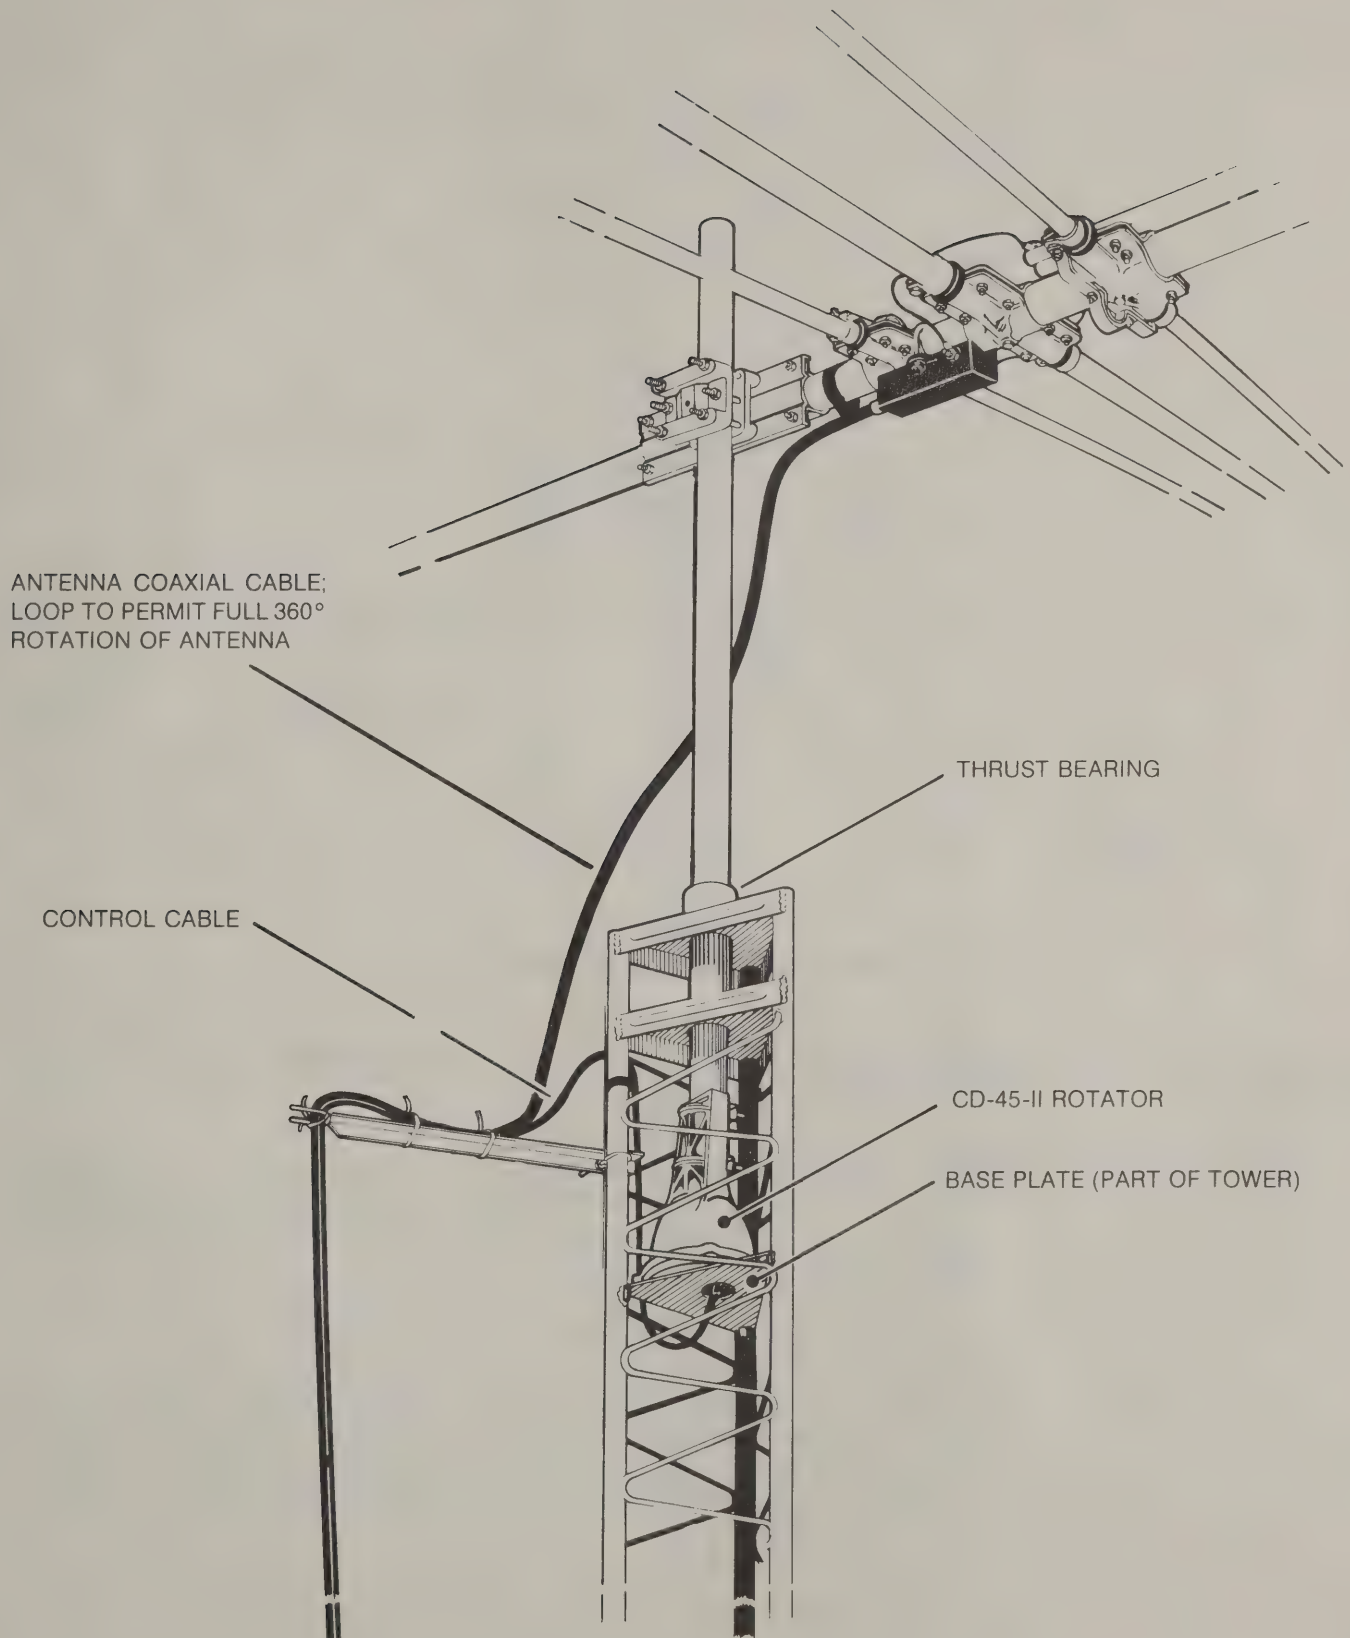

Figure 3
- D. When not mounted within a tower with a thrust bearing as shown in Figure 3, the rotator must be *derated*.
There are three general types of installations (see Figures 3, 5 and 7).
1. The recommended installation is an "Inside" Tower Mount, as shown in Figure 3, with a top bushing or bearing to provide lateral support and resist high wind loads.
There are variations of mounting falling generally into one of the above categories. For example, the rotator may be mounted lower in the tower than shown in Figure 3. In that case, more than one bushing or thrust bearing for the beam mast may be required and longer coast down time allowed in operation. These factors are interrelated and the components must be matched together.
The rotator is mounted inside a tower (see Figure 3) to the flat tower plate by means of four (4) bolts furnished in the hardware kit. Use the following procedure:
7. Tighten the four (4) bolts carefully—to approximately 100 inch-pounds of torque.
8. Return the rotator to the full CW “S” position. Mount the beam pointing South. The coaxial cable should be looped as per Figure 3, in such a manner that it will not foul or tangle when the beam turns around in a circle to the full 360° counterclockwise position. (The antenna rotates “S” “E” [counterclockwise] on the first turn, therefore, slack should wrap counterclockwise around the mast.) Tighten the U-Bolts *securely*.